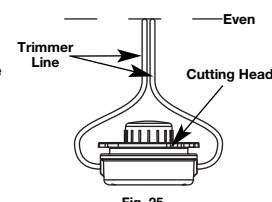

Fig. 25
4. Adjust the line so that both ends are of equal length (Fig. 25).